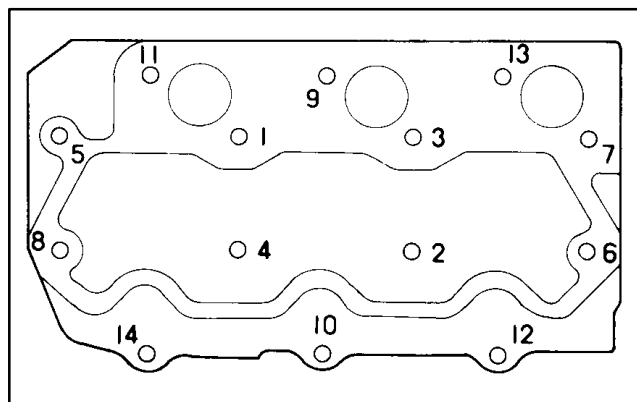

Figure 42
2. Using sequence in figure 42, torque head bolts to 25 to 29 ft/lb.